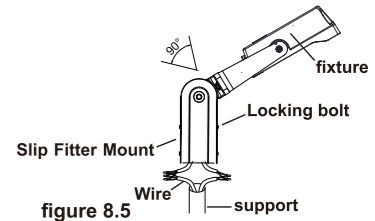

figure 8.5
Step 3: Loosen screws; Adjust fixture angles as per actual demands and tighten screws later; Angles of the fixture is adjustable (pass the bracket through mounting surface, fix it with screws, then connect the wires as per proper wiring requirements).(figure 8.5)